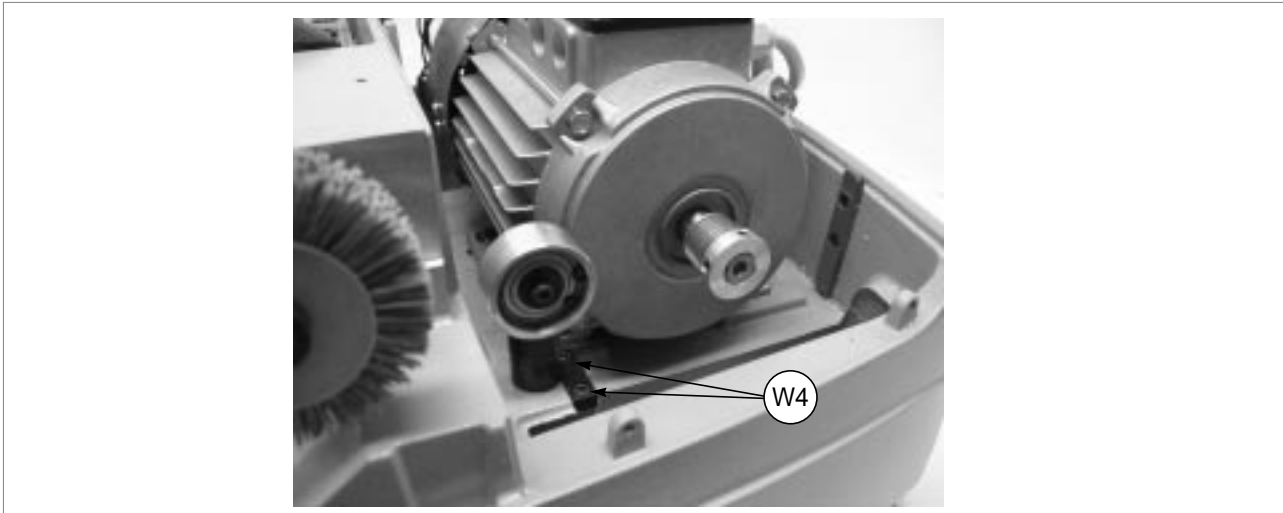

Fig. 29
- 1) Loosen the 2 screws (W4) on the plate and remove the unit (fig. 29).